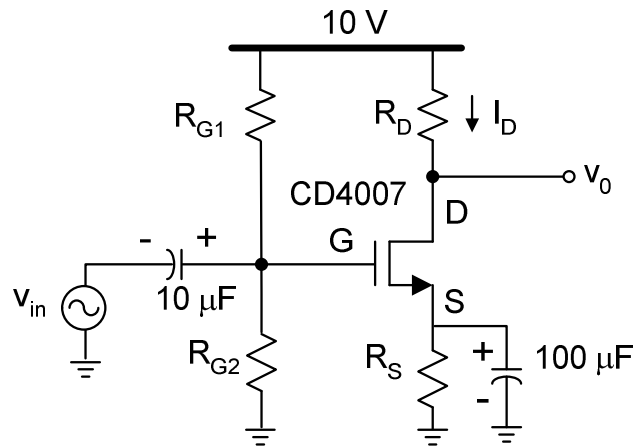

Fig. 3. Common-source configuration
- Find the value of the resistors for the circuit shown in Fig. 3 (use the CD4007) such that the magnitude of the small signal voltage gain is 20 dB, and the DC drain current is 1 mA. Make sure the transistor operates in the saturation region. Select the resistors lumped to the gate such that $R_{B1}||R_{B2} > 100\text{ k}\Omega$. Check first the operating point of your design, and verify that the voltage gain is approximately given by $-g_m R_D$. Compute the values for the input impedance, and output impedance.
- Construct the circuit in Fig. 3 in Pspice and compare the simulated results and hand calculations. Explain any differences.
- Plot the frequency response of the circuit shown in Fig. 3, and find the low frequency and high frequency poles.
5. Construct the circuit shown in Fig. 3; use the resistor values computed in the pre-lab and be sure you verify the component values needed using Spice simulations.